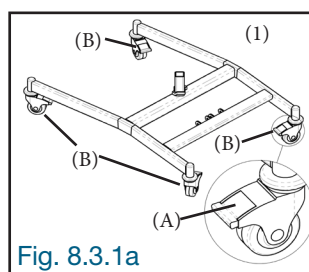

Fig. 8.3.1a
8.3.1 Place the base with wheels (1) on the ground and securely lock the brakes (A) of all four wheels (B) (Fig. 8.3.1a).